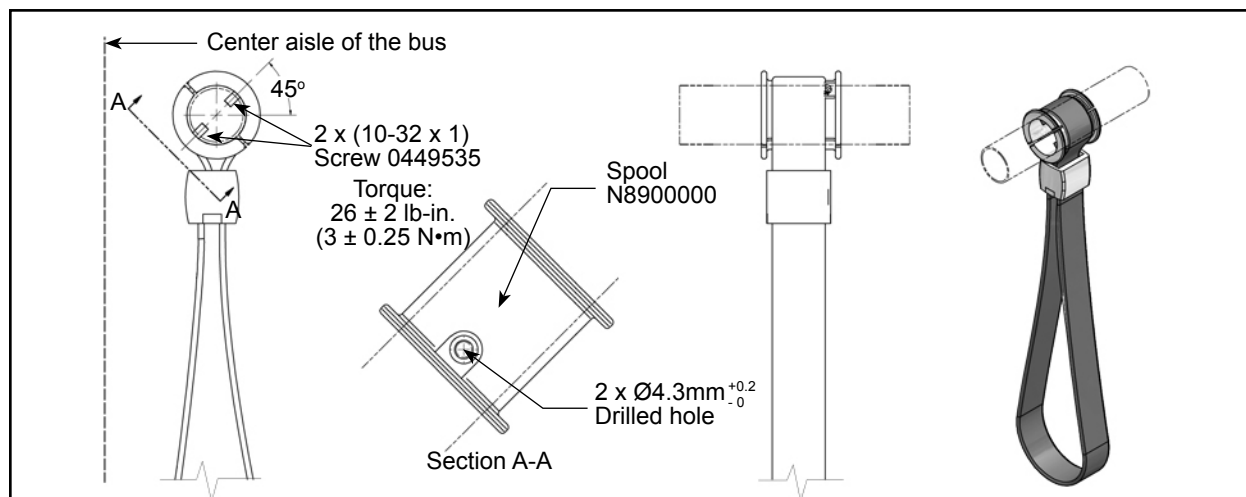

Figure 2 - Spool Installation
- 1.2. Slide sufficiently away the spool-handle assembly to be able to mark and drill the new spool mounting holes according to Figure 2. It is important that the grab handle is to be mounted in the same location as previously installed on the grab rail. Only the orientation of the spool and the position of the screws will vary.
The 45° mounting angle, illustrated in Figure 2, is important for the proper installation of the grab handle.
- 1.3. Replace the spool and reinstall the screws using a medium grade Blue Loctite thread locker, or an equivalent. Apply the torque specified in Figure 2. ❖